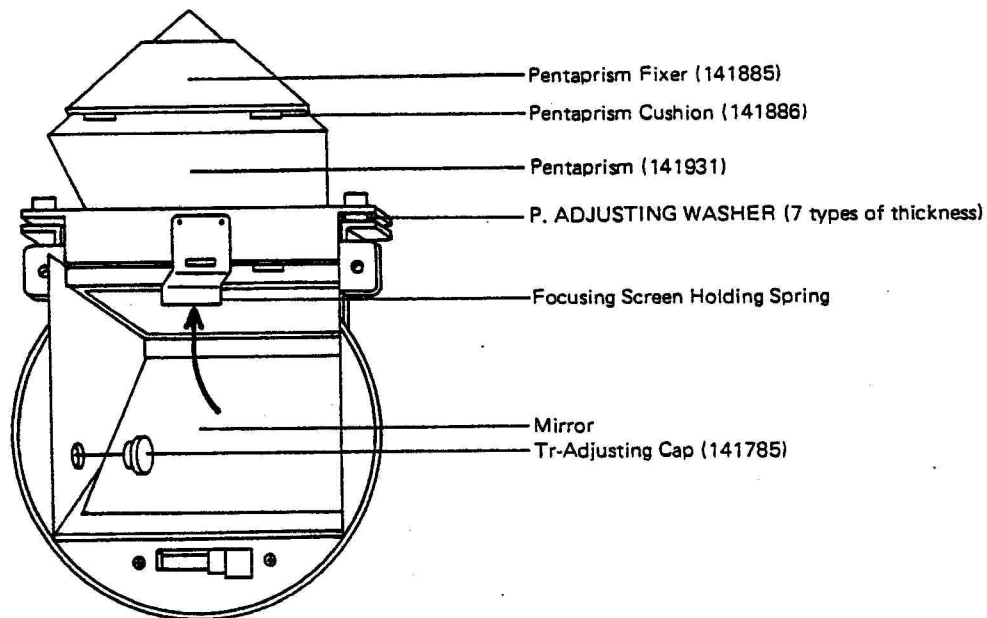

Fig. 44
- a) Make sure the mechanism on the mirror box should not be tensioned when removing it from the Mount Base Ass'y. If the mirror is activated after the mirror box is removed from the Mount Base Ass'y the mirror will be scratched or cracked by the Focusing Screen Holding Spring. (fig. 44)